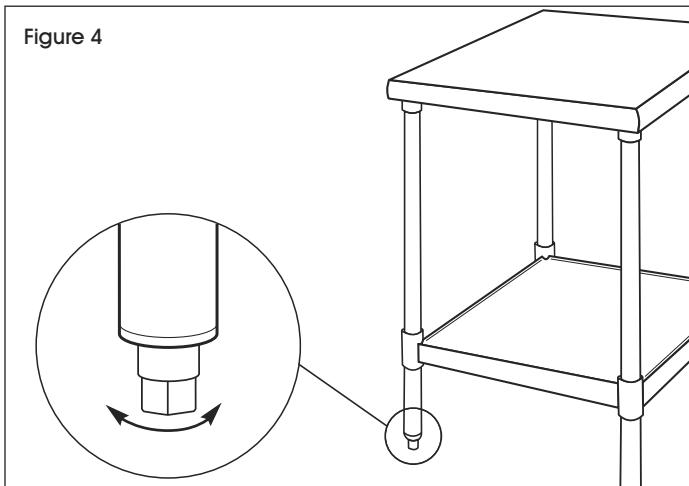

Figure 4
- Level table with the adjustable feet. Adjustable feet allow approximately 1" of adjustment. (See Figure 4)